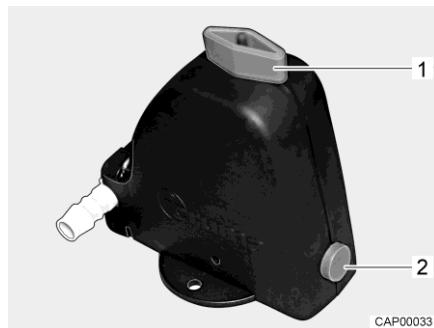
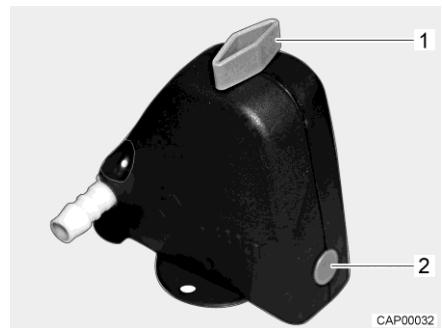

Fig. 67 Safety/drainage valve open
Fig. 68 Safety/drainage valve closed
- Close the safety/drainage valve. Turn the knob (Fig. 67,1) perpendicular to the safety/drainage valve and push the push button (Fig. 67,2) in. The closed safety/drainage valve is shown in Fig. 68. If the temperature is below 6 °C, the safety/drainage valve cannot be closed.